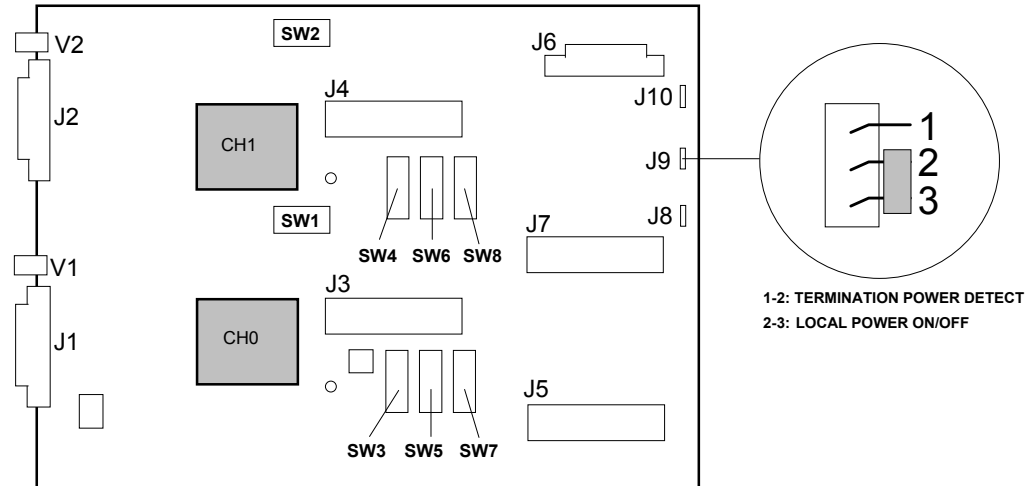

Figure 3-2. Power Control Mode Jumper
3. Locate Power Control Mode Jumper J9 on the DEU board and move the jumper block from 1-2 to 2-3. See Figure 3-2.